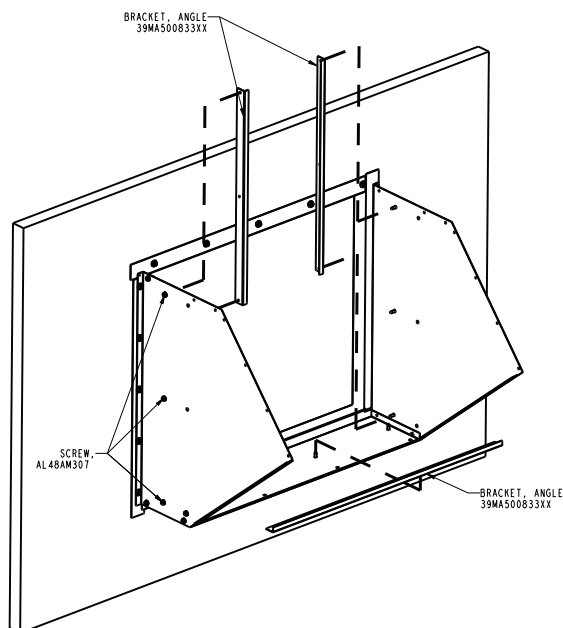

Fig. 73 — Attaching the Angle Brackets
10. Attach inner angle brackets to side and bottom panels using the $\frac{1}{4}$ in.-14 x $\frac{5}{8}$ in. long sheet metal screws (without neoprene washer.) See Fig. 73.